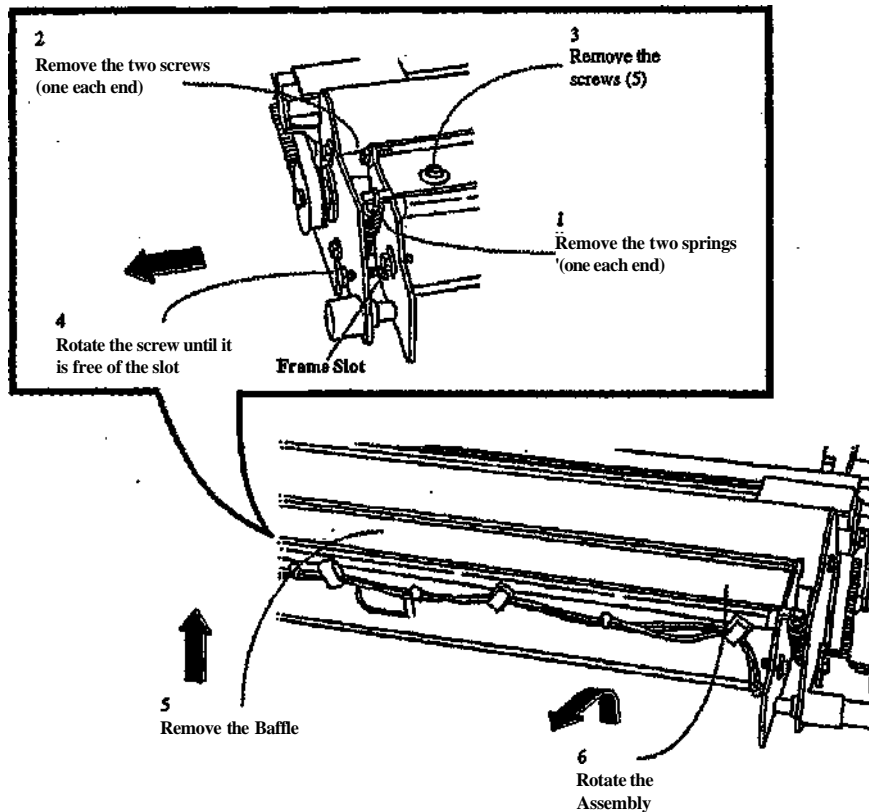

Figure 1. Removing the Baffle
3. (Figure 1): Remove the Baffle.